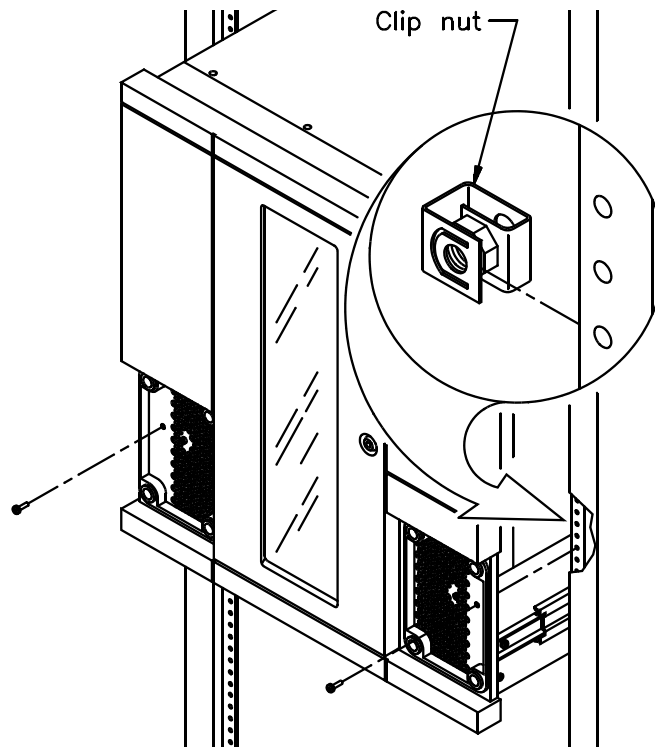

Figure 1-6 Securing the library in the rack
7. If the holes in the rack are not threaded, install a clip nut on each side of the rack, as shown in Figure 1-6.
8. Slide the library completely into the rack. Use a T-25 TORX driver to insert the two 10-32 × 1.0 pan head screws on the front panel, as shown in Figure 1-6. These screws prevent the library from sliding out of the rack.